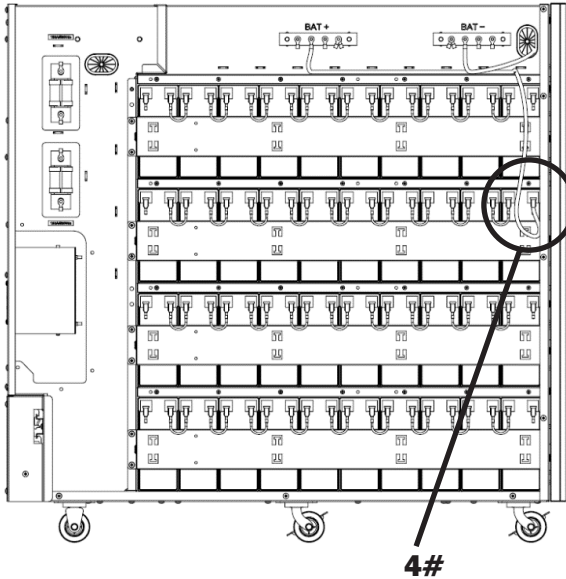

Figure 5-20A
29. Connect group 3 battery 1+ to + battery bus bar (BAT +) (Figure 5-20A).